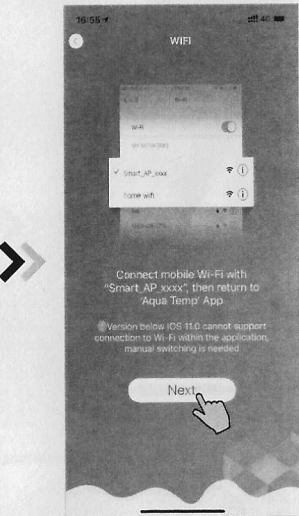
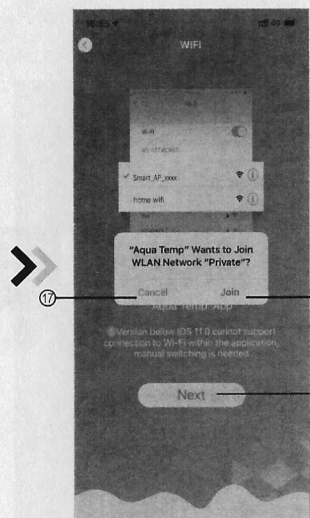
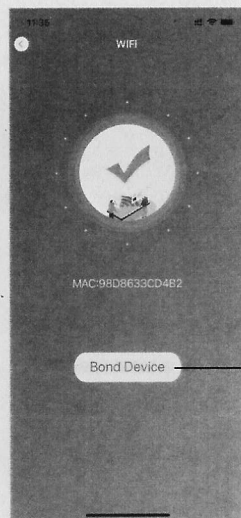

Fig.12 Connect specified WIFI
Fig. 13 Configure Network interface
Fig. 14 Bond Device interface
4. Slide the page back to configure network interface (Fig. 12), click 16 to join WLAN Network, click 17 to cancel, click 18 to turn next page(Fig. 13); click 19 to bond device (Fig. 14);